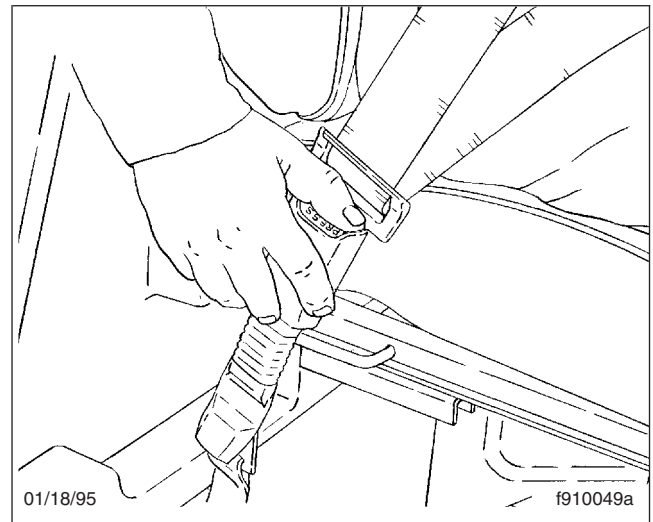

Fig. 7.11, Releasing the Three-Point Seat Belt
4. To unbuckle the three-point seat belt, push the button on the buckle as shown in Fig. 7.11. If the Komfort Latch was used, release it by giving the shoulder belt a quick tug. If you lean forward against the shoulder belt, the Komfort Latch will automatically release, and will need to be reset.
6. To unbuckle the three-point seat belt, press the release button on the buckle; see Fig. 7.11.